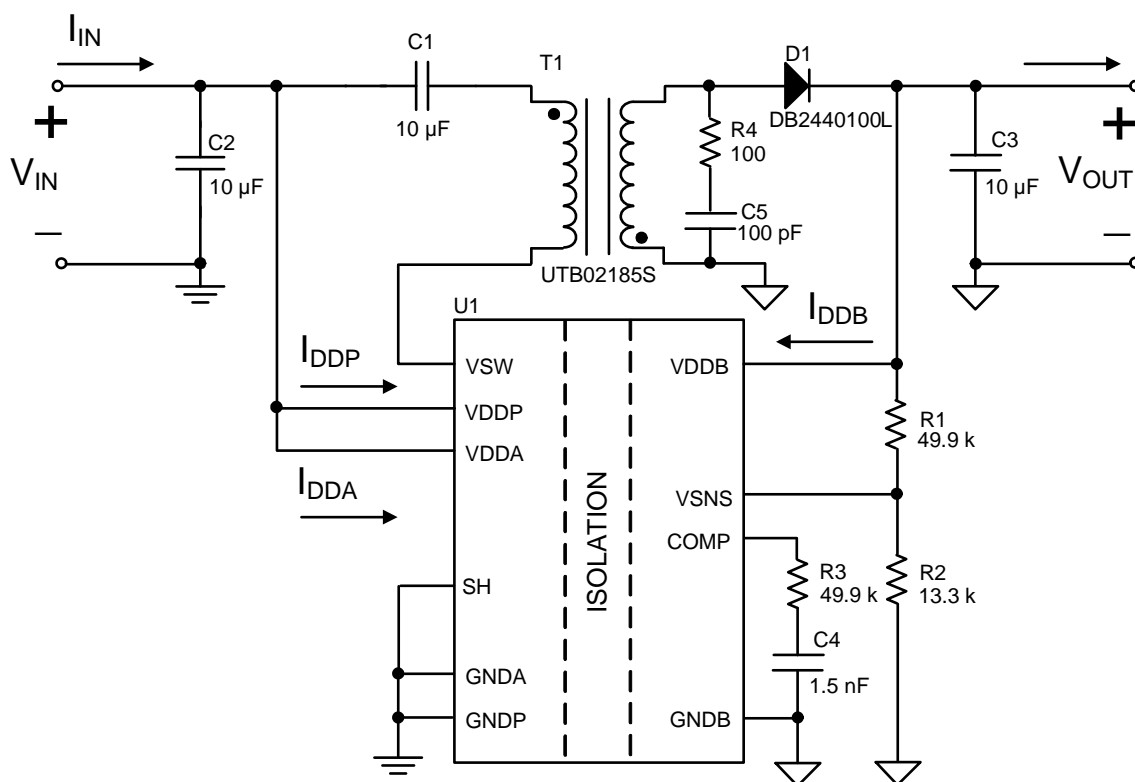
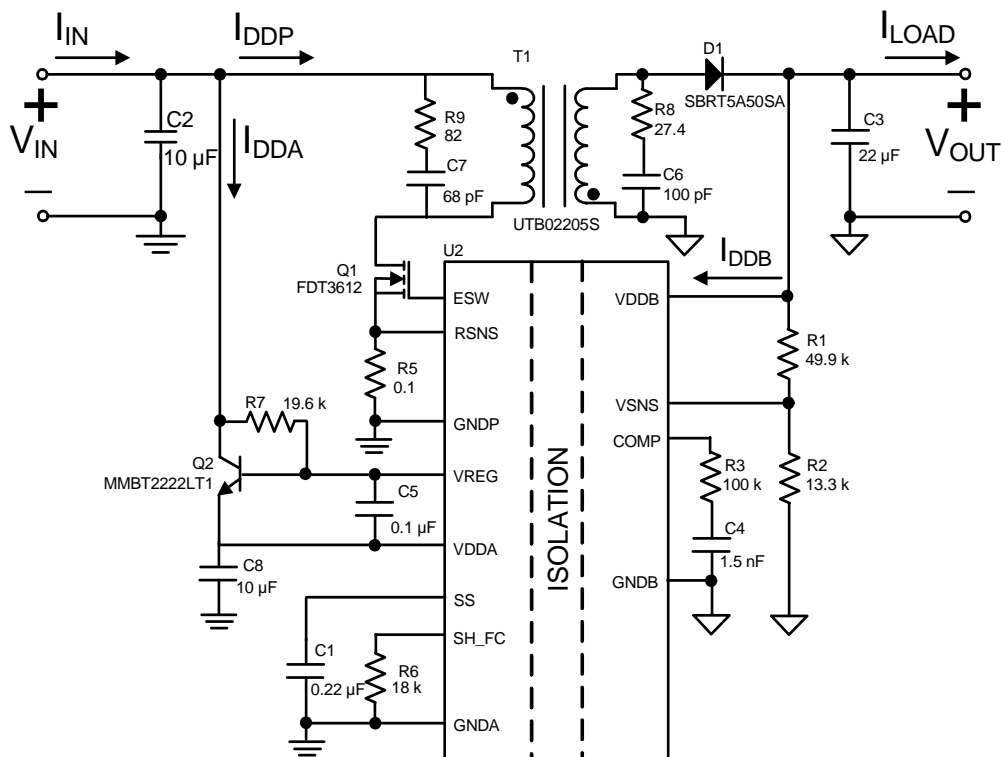

Figure 2. Measurement Circuit for Converter Efficiency and Regulation for Si882xx, Si883xx
Figure 3. Measurement Circuit for Converter Efficiency and Regulation for Si884xx, Si886xx
$V_{IN} = 24\text{ V}$ ;  $V_{DDA} = 4.3\text{ V}$  (see Figure 3) for all Si8844x/64x;  $V_{DDA} = V_{DDP} = 3.0\text{ to }5.5\text{ V}$  (see Figure 2) for all Si8824x/34x;
*Note: Maximum value allowed in the event of a failure. Refer to the thermal derating curve in Figure 3.